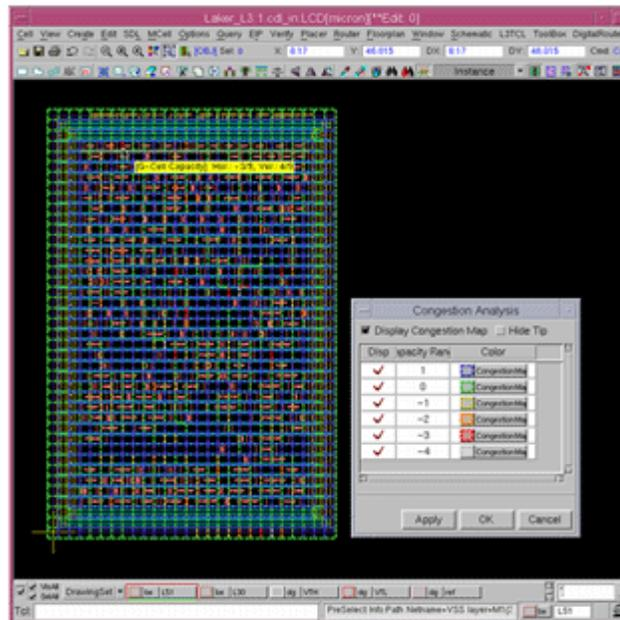

Figure 2: Optimize Placement and Routing Channels Using Congestion Maps
- Unique hybrid routing technology combines gridded- and shape-based routing for very high route completion rates. Global routing enables congestion analysis, mapping, and display during the floor-planning and placement stage (see Figure 2).